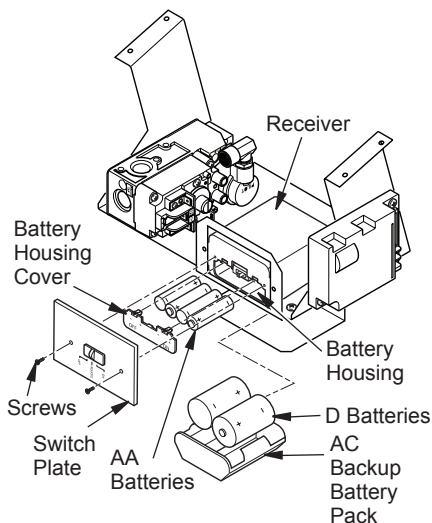

Figure 30 - Installing Receiver Batteries
5. Remove switch plate from receiver (see Figure 30).
6. Remove battery housing cover on remote receiver to expose battery housing (see Figure 30).
7. Install 4 AA batteries into housing following positive and negative directions on battery housing cover removed in step 3 (see Figure 30).